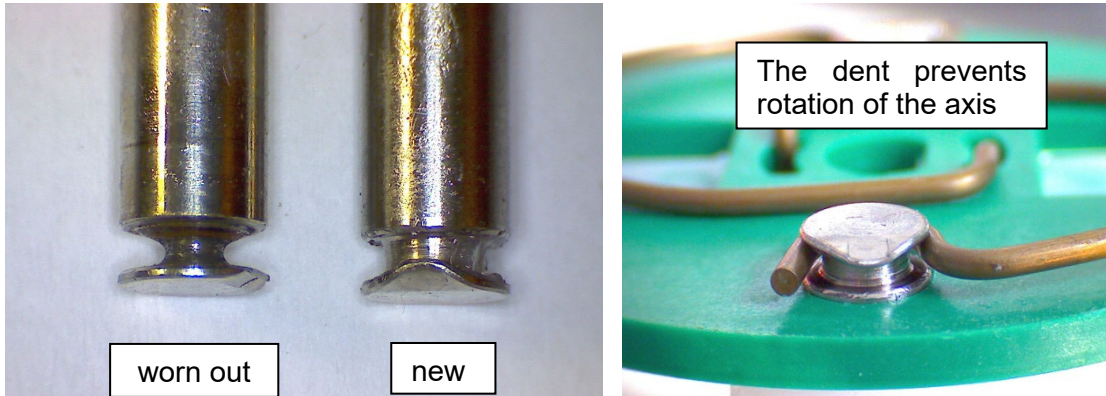

Figure 10 Check of axes and rolls
- 3. Remove the pump head ② from the motor shaft.
- 5. The removal of the springs (4 pcs.) ③ away from the driver is easily possible without the aid of any tools. For this take spring out of the groove ④ near to the shaft bore.
6. Dismount roller axes and change contact pulleys. Take care that axes are not worn out by the springs and have damaged the dent at the axes front end. In case of abrasion the axes have to be changed (see Figure 10).
7. Make sure that contact pulleys move easily on the axis. After remounting the axis with contact pulley into the driver the spring has to be mounted as shown as in Figure 10. Please pay attention to the alignment of the dent.